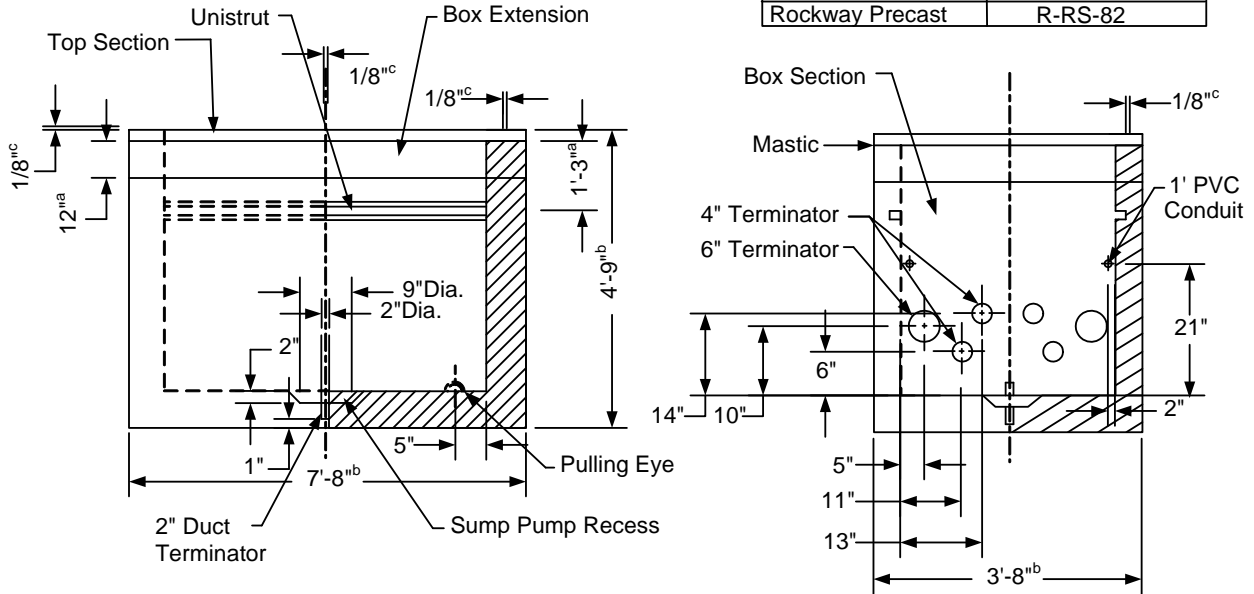

Figure 1. RS-82A Pullbox (Torsion-Assisted Lid) for General Use Applications
1. TOP SECTION (FIGURE 1, TORSION ASSISTED LID)
10. The gap between the precast structure and the lid shall be sealed with mastic or similar material approved by NVE (see Figure 1).
11. Two (2) 1/2 inch hexagon torsion bars are to be used for each lid. The material shall be 4140 Annealed or 5160 ASQ. Bars to be heat treated to R/C 42-44 and straightened and then cold galvanized or electroplated to prevent corrosion. Design is to allow for easy replacement of torsion bars. Material and heat treating certifications shall be provided on request.